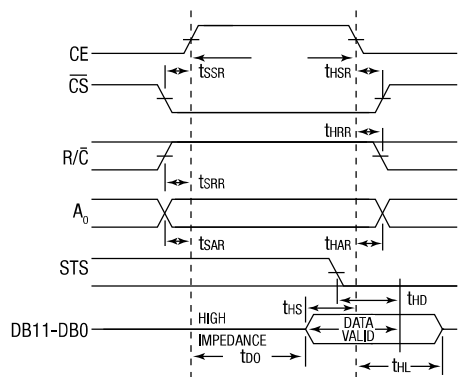

Figure 4. Read Cycle Timing
- To read the output data, four conditions must be met (or the output buffers will remain in high impedance state): R/ $\overline{\text{C}}$ taken high, STS low, CE high and $\overline{\text{CS}}$ low. When this is accomplished, the data lines are activated according to the state of the 12/8 and A_0 inputs. (See TIMING DIAGRAM on Figure 4).